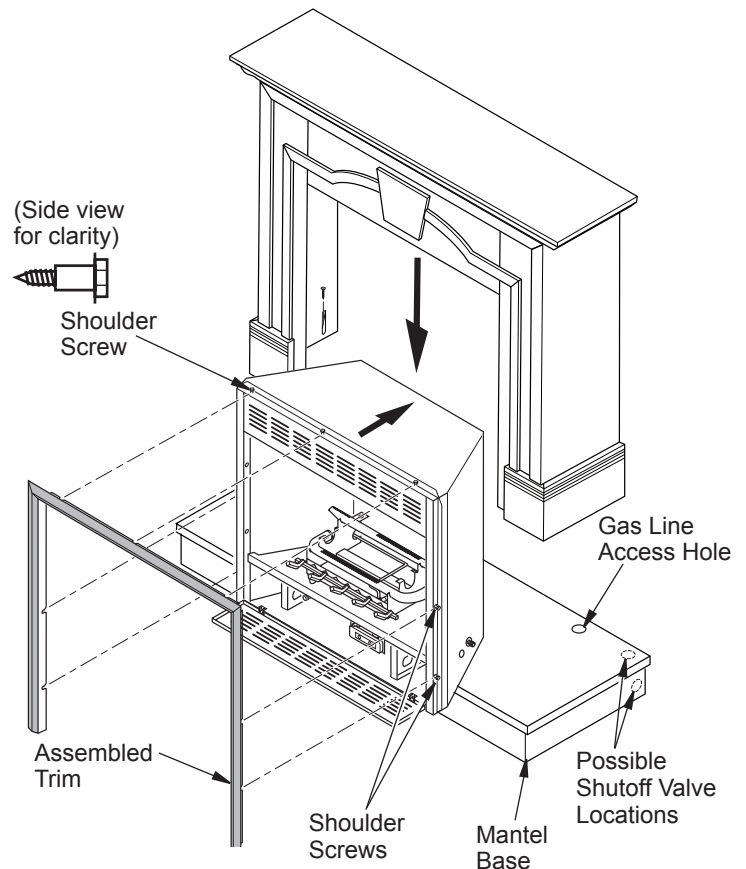

Figure 8 - Installing Fireplace with Flange
3. With assistance, carefully place mantel over fireplace (see Figure 8). Fireplace nailing flanges will be to inside of mantel. Align mantel with markings made previously. Make sure back of mantel is flush with back of mantel base. Adjust fireplace as necessary.